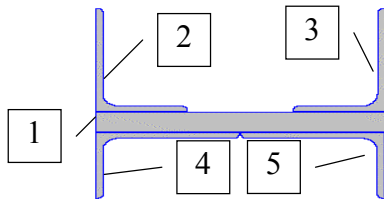

Fig. 42. Designed section
A section (Fig. 42) containing a lightweight section 10x100 mm (1) and four angles with unequal flanges 50x32x3 (2–5) is required.